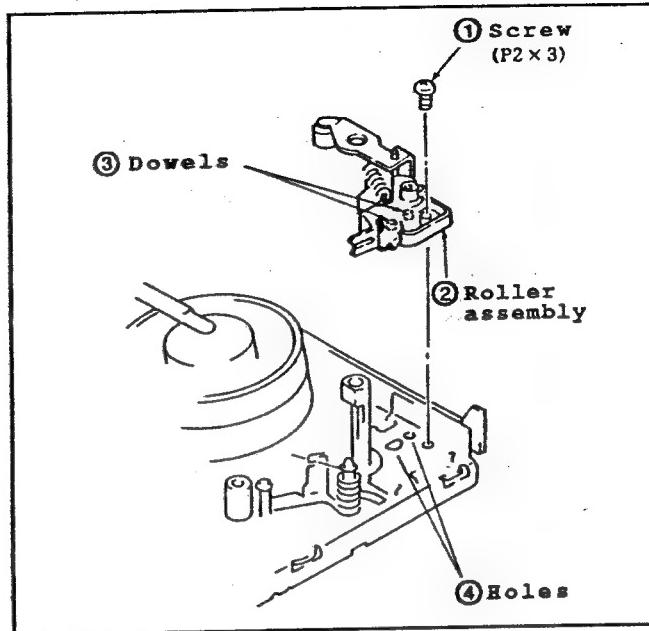

Fig.II-7
- Disassembling (Fig.II-7)
- (1) To dismount the roller assembly
②, removes a screw ①.
- Reassembling (Fig.II-7)
- (1) Install the roller assembly while aligning the two dowels with the two holes ④ at mechanical chassis.
- (2) Secure the roller assembly ② with a screw ①.